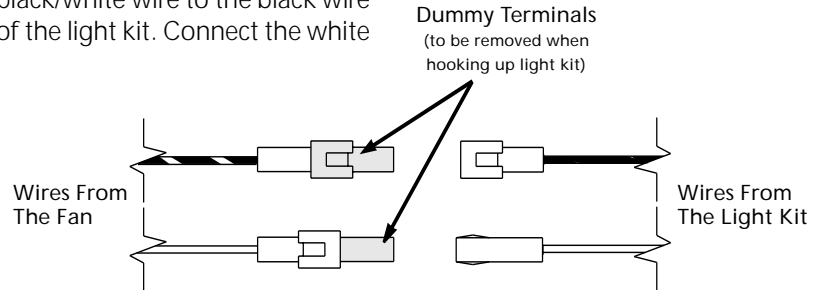

Figure 11b - Wiring Connections for Light Kit
5. Refer to Figure 11b. Locate the black/white wire and the white wire in the fan switch housing that have connectors attached. Pull the dummy terminals out of both connectors. Connect the black/white wire to the black wire of the light kit. Connect the white